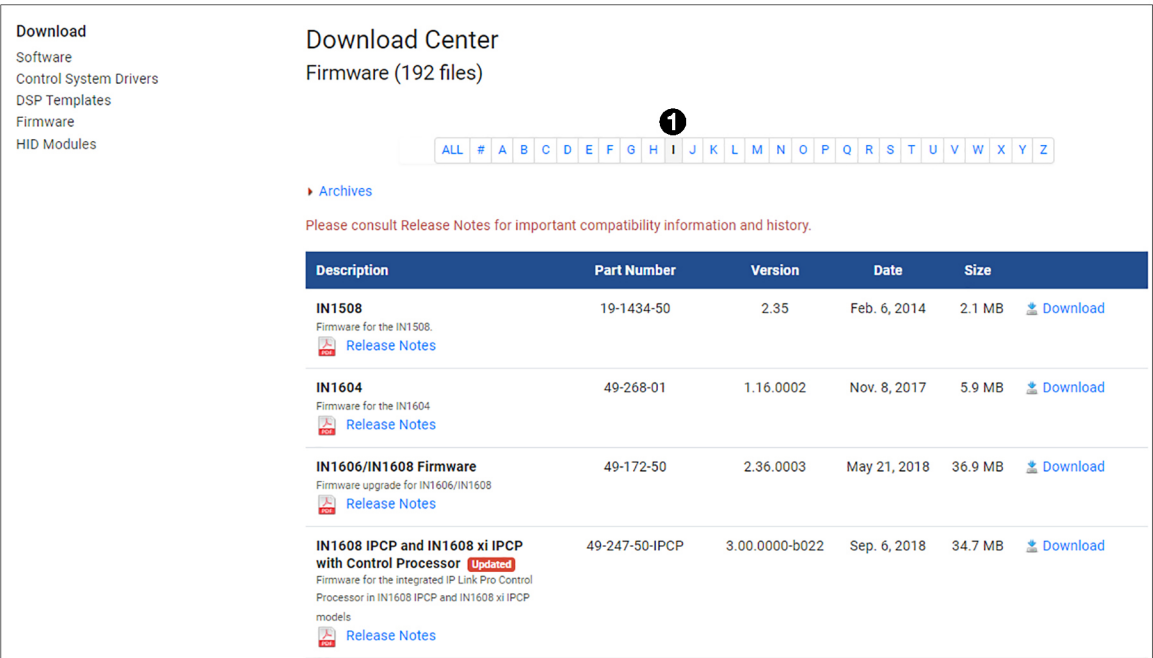

Figure 57. I Link on Firmware Download Center Page
3. On the Download Center screen, click the **I** link (see figure 57, ①).